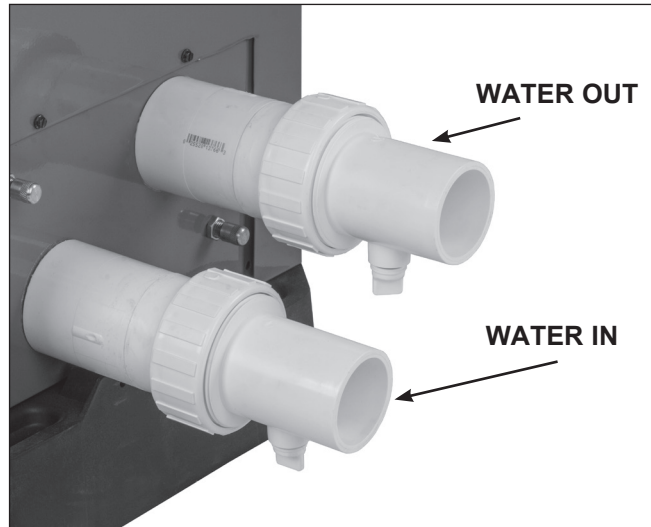

Fig. 4: Water Connections/Drain Plugs
6. Drain plugs are located on each union fitting as shown in Fig. 4 for draining the system during winterizing.
NOTE: While it is possible to mount the upper union with the drain plug vertically, the manufacturer has determined that installing both unions with the drain plugs facing down as shown in Fig. 4 provides for the best draining of the system.